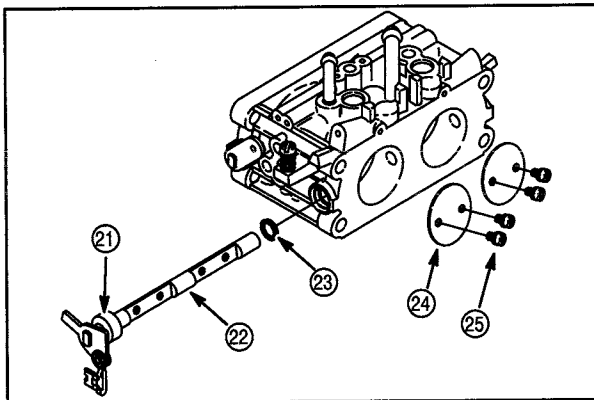

**Fig. 65**
9. Remove idle mixture screws (19) and springs (20), Fig. 65.
**NOTE:** If idle mixture screws are equipped with adjustment limiter caps, remove the caps (18) **BEFORE** removing idle mixture screws, **inset, Fig. 65**.